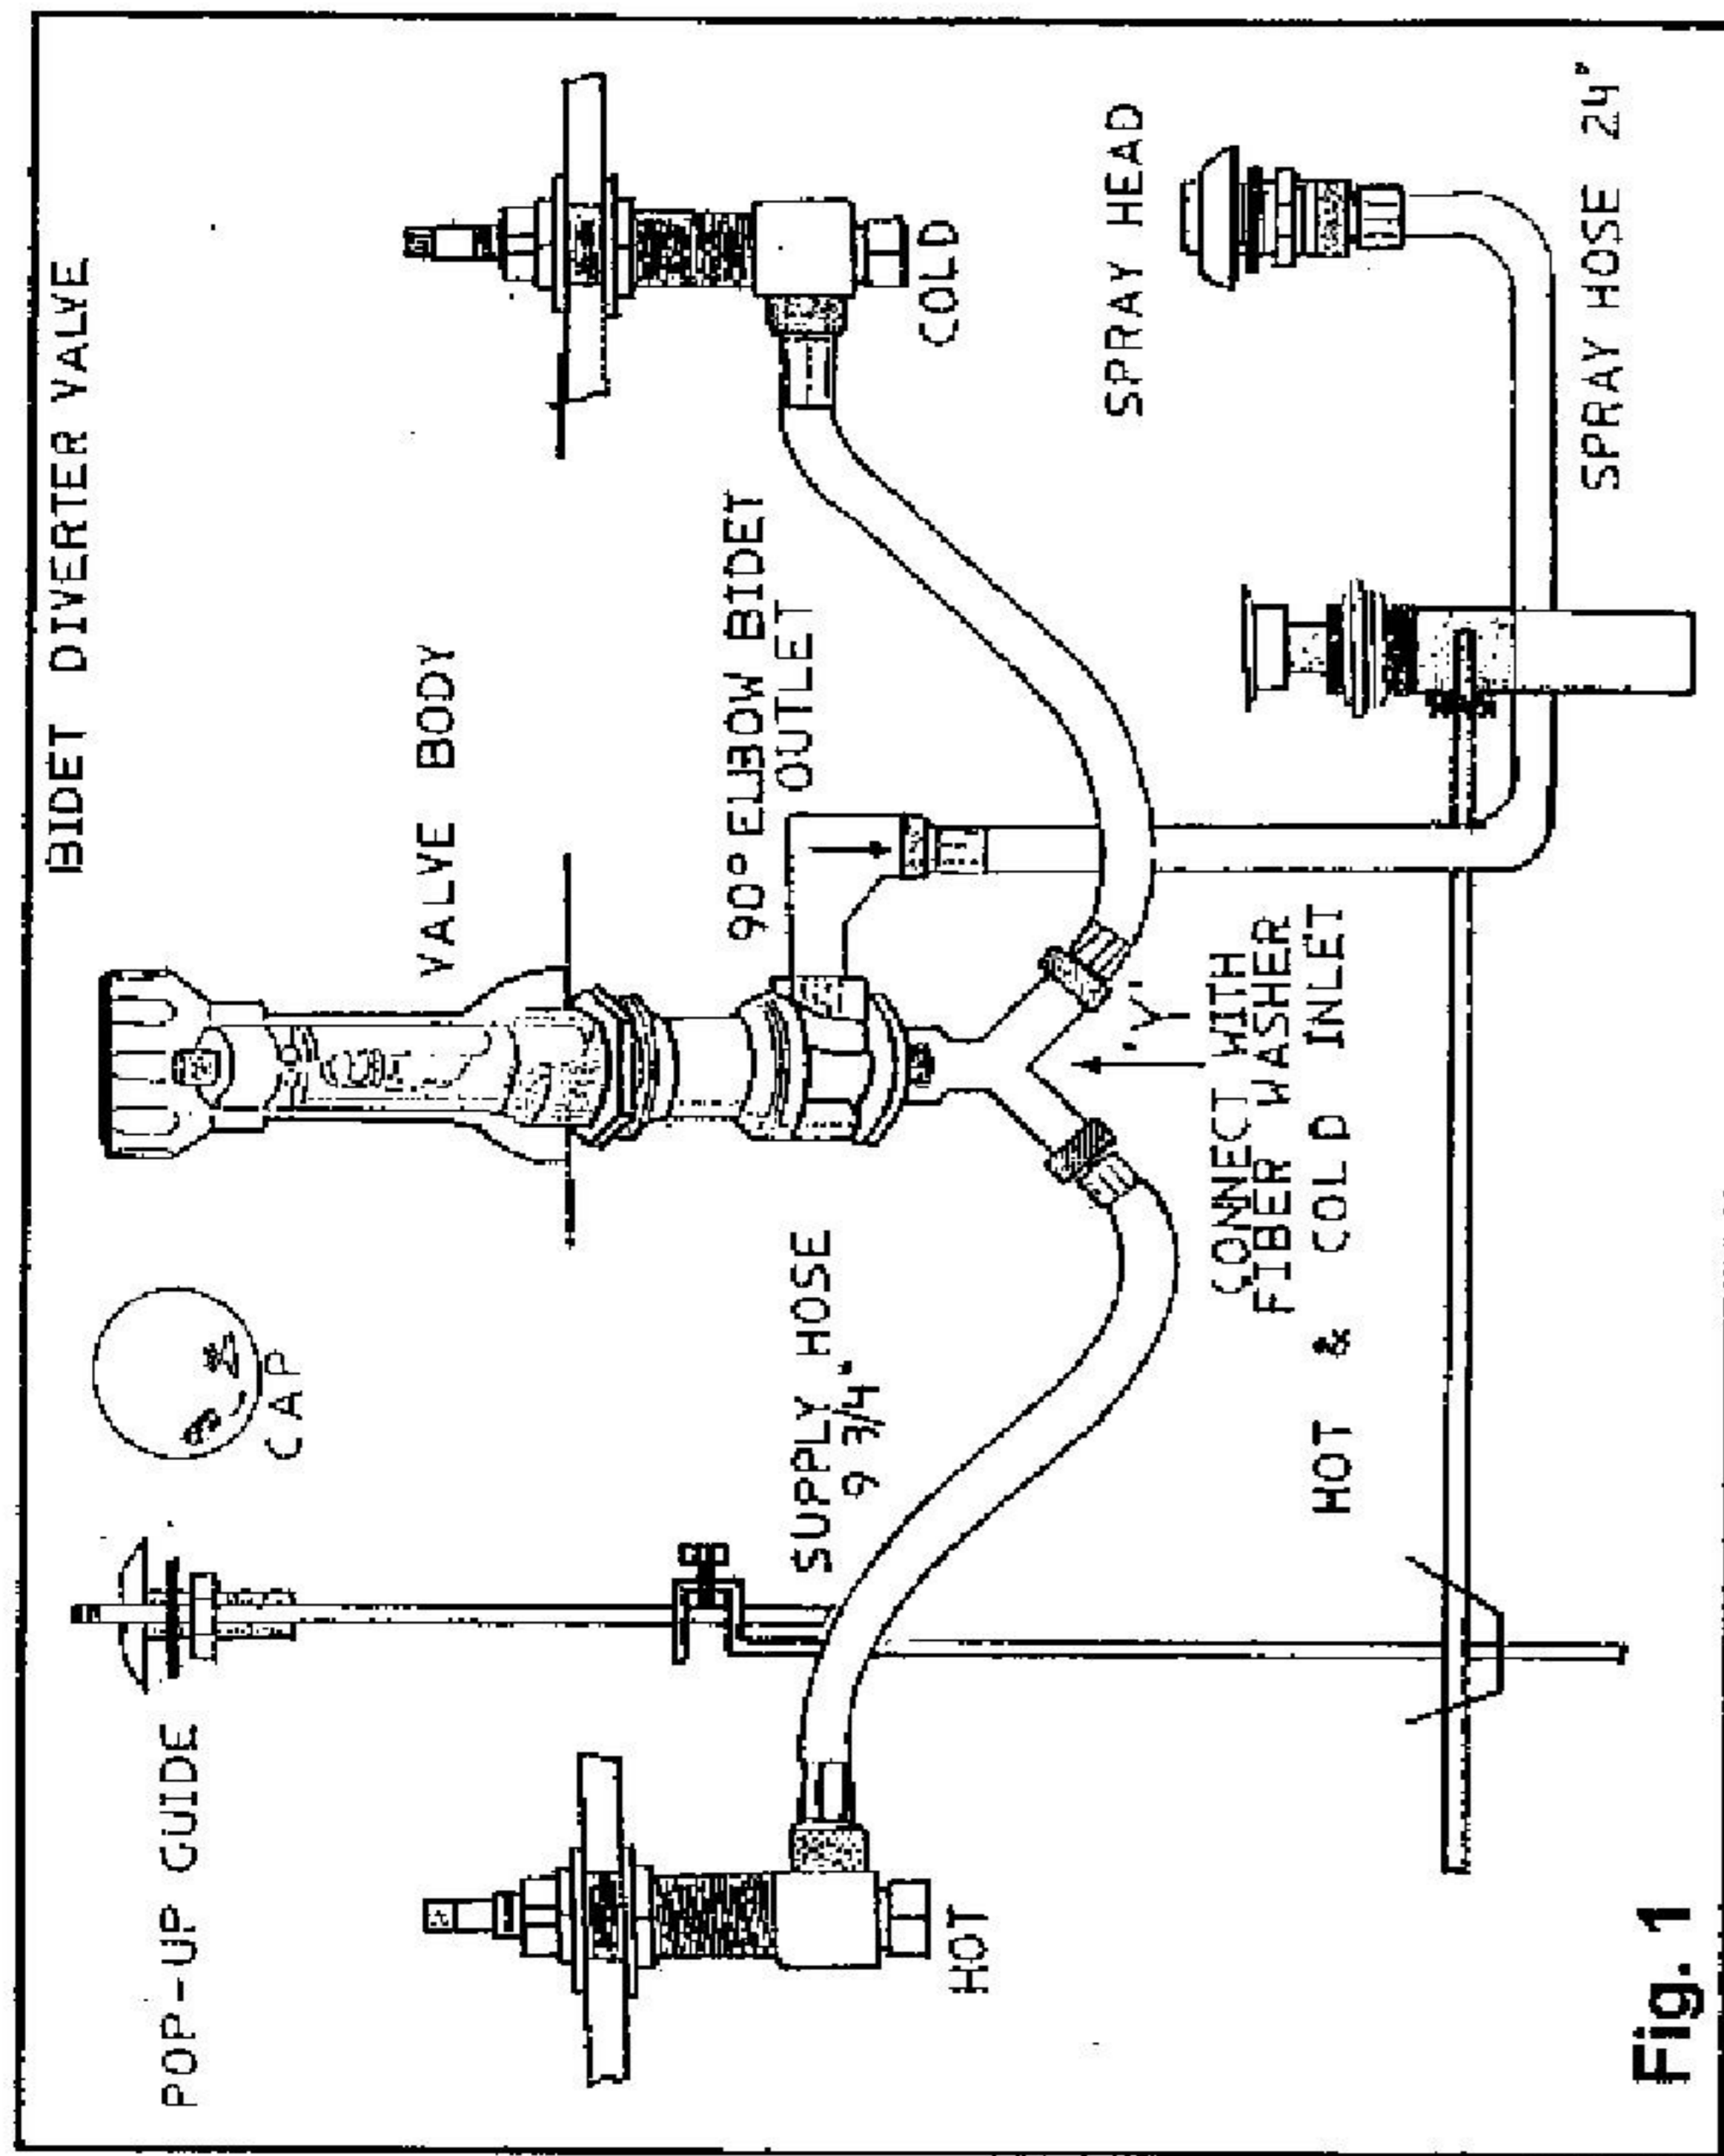

Fig. 1
- 2. Install Spray Head:** (See Fig. 1)
- 3. Install Pop-Up Guide:** (See Fig. 1)
- 5. Install Valve Stems:** (Hot & cold are labeled: cold=blue & hot=red). (See Fig. 1)
- 6. Install Hoses:** (See Fig. 1)